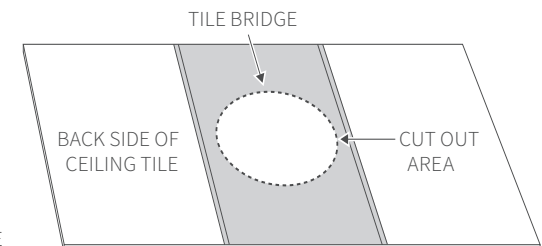

FIGURE 2:
1. Lay the tile bridge across the backside of the ceiling tile as shown in figure 2. Using a marker or pencil, trace out the cutout circle as a template.
4. Turn the tile on its side and insert the speaker into the front side of the tile. Place the tile bridge around the backside of the speaker, oriented horizontally across the tile (as shown in figure 2).